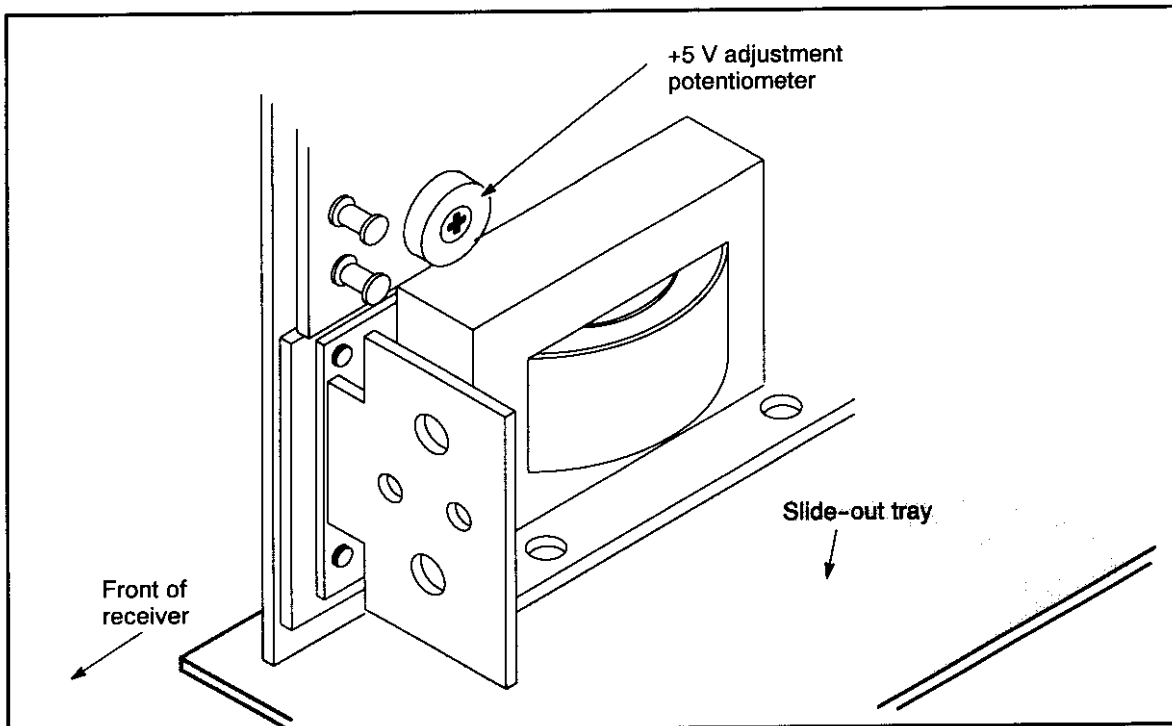

Figure 39. Location of the Receiver +5 VDC Adjustment.
- If necessary to adjust the output level, use Figure 39 to locate the voltage adjustment potentiometer.